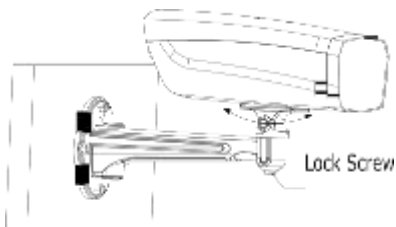

Figure 2-6 Panning
8. Loosen the panning lock screw. You can adjust the panning angle of the camera (Figure 2-6).